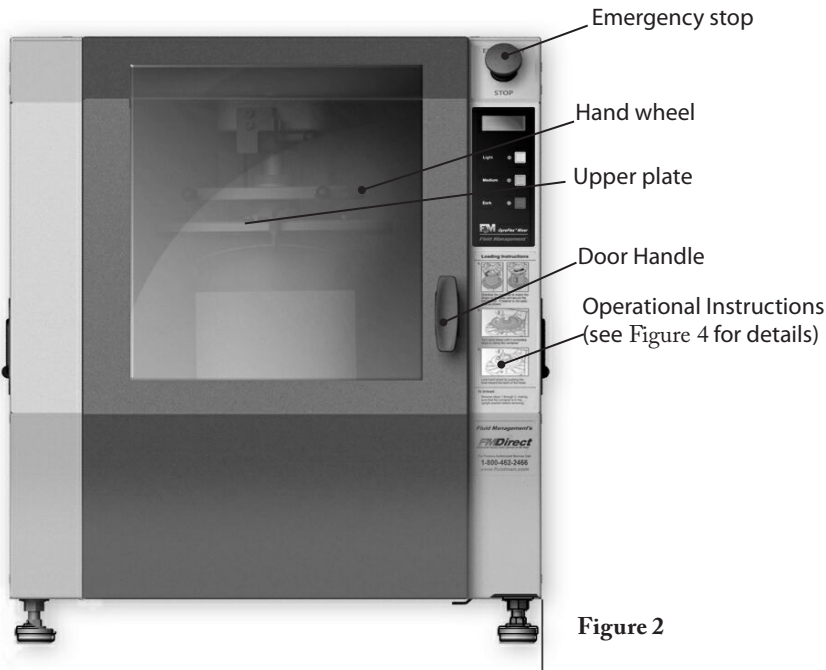

Figure 2
- 5 - Make sure can is positioned vertically. Close door. Turn handle clockwise until it stops (Figure 2). A safety switch prevents operation of paint mixer while door is unlatched.